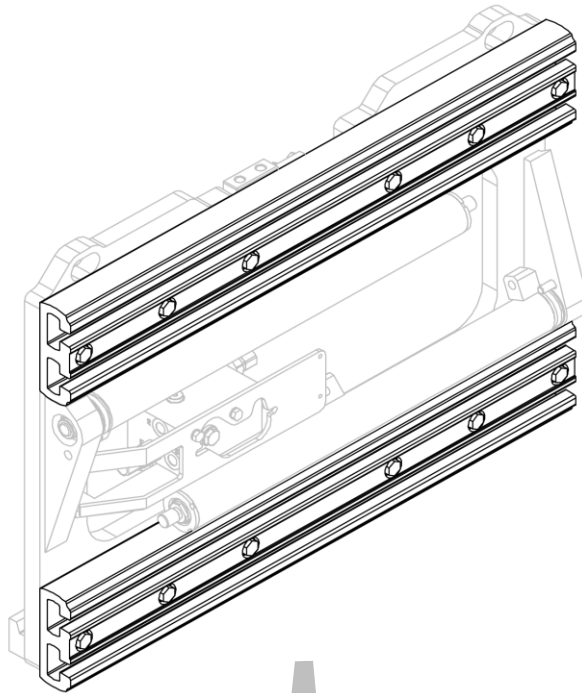
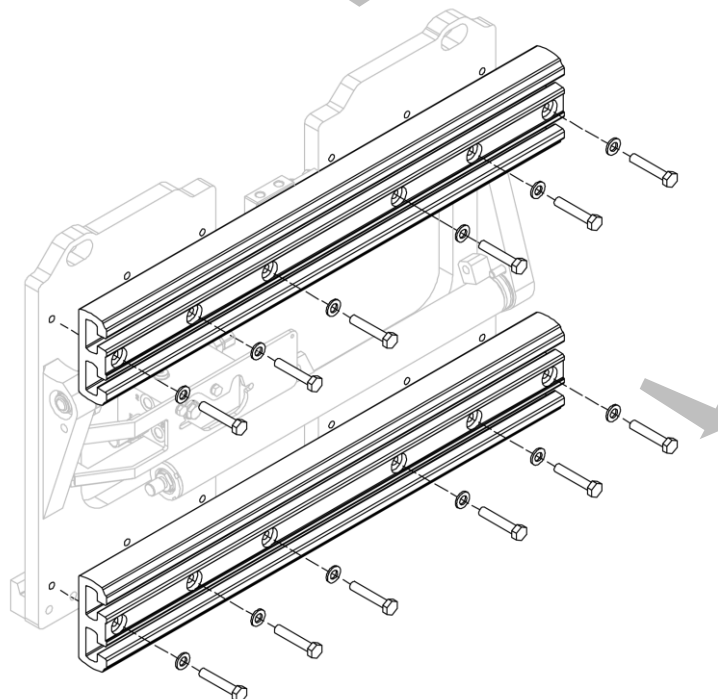

Figure 34
Figure 35
2. Remove the aluminium profiles, one at a time, after unscrewing the bolts (see *Figure 34* and *Figure 35*).